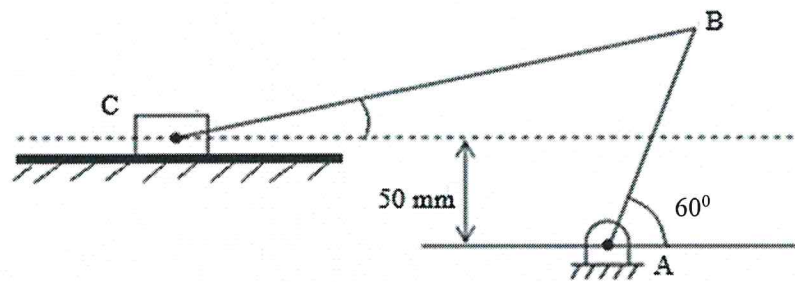

Figure3(b) / Rajah 3(b)
- (b) Consider the slider crank mechanism given in Figure 3(b). Let $AB = 200$ mm, $BC = 520$ mm and offset distance = 50 mm. The crank AB rotates counter clockwise at a constant velocity of 2000 rpm.